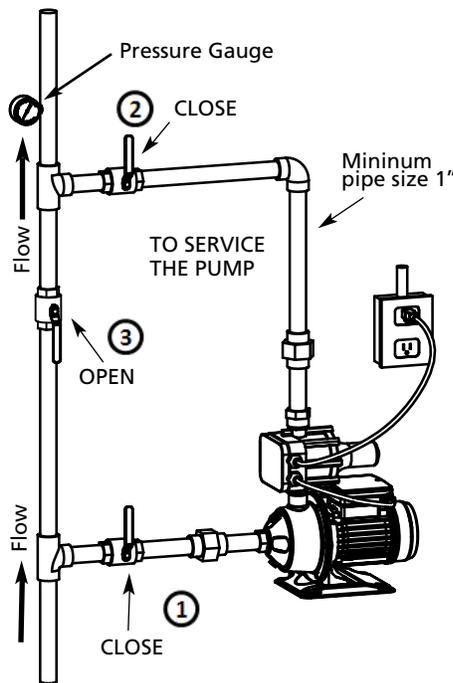

Figure 3 – **DO NOT** try to turn the Automatic Pressure Controller. It is aligned at the factory and twisting it will break the glue joint and cause a leak
13. Install a pressure gauge as per the pictures as above(Figure 3), to monitor the pressure in piping